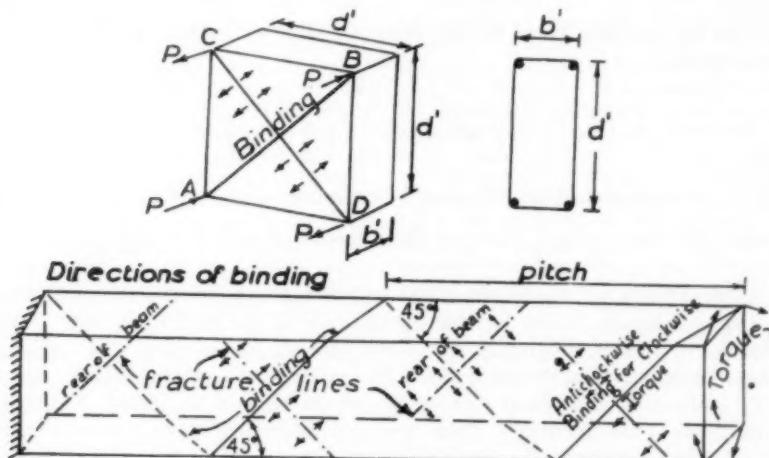

Fig. 4.
**TENSILE STRESS IN THE BINDING.**—If  $b'$  and  $d'$  are the dimensions of the core enclosed by the helical binding (Fig. 4), consider a part of the girder of length  $d'$ . The effect of the twisting moment is equivalent to that of two forces  $P'$  acting at the ends of the diagonal AB and two equal and opposite forces at the ends of diagonal CD. These forces cause, across diagonal CD, tensile forces which are resisted by the concrete or, if the concrete cracks, by the helical binding which crosses the diagonal at right-angles. The twisting moment  $T$  is  $P'd'$ , and the